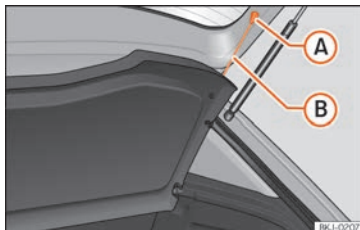

Fig. 163 In the boot: removing and installing the shelf.
- Detach the cord loops »» **Fig. 163 (A)** from their hooks **(A)**.
- Hook the loops »» **Fig. 163 (B)** to the rear lid. »